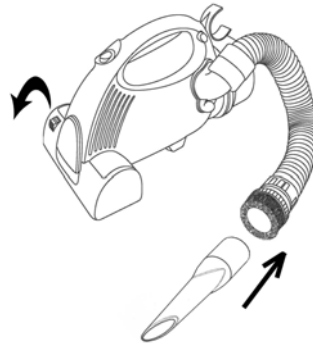

Fig. 5
3. To use the flexible hose with the crevice tool, make sure that the brush is in the storage position and insert the crevice tool into the opening of the hose. (fig. 5)